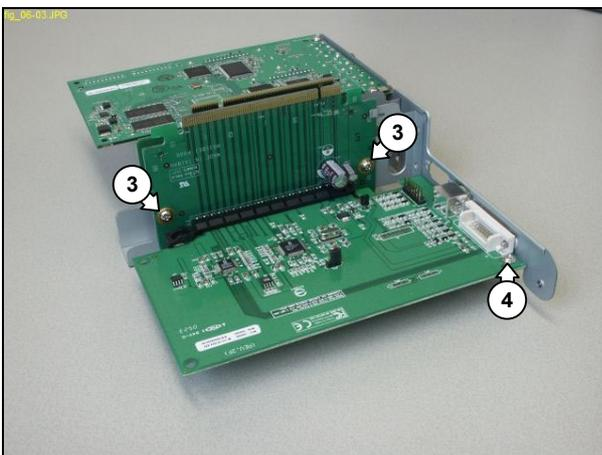

Figure 12.6-3
5. Remove the 2 mounting screws (3) from the PCI-E riser card. See Figure 12.6-3.
6. Remove the mounting screw (4) from the ADD2 Graphics card. See Figure 12.6-3.